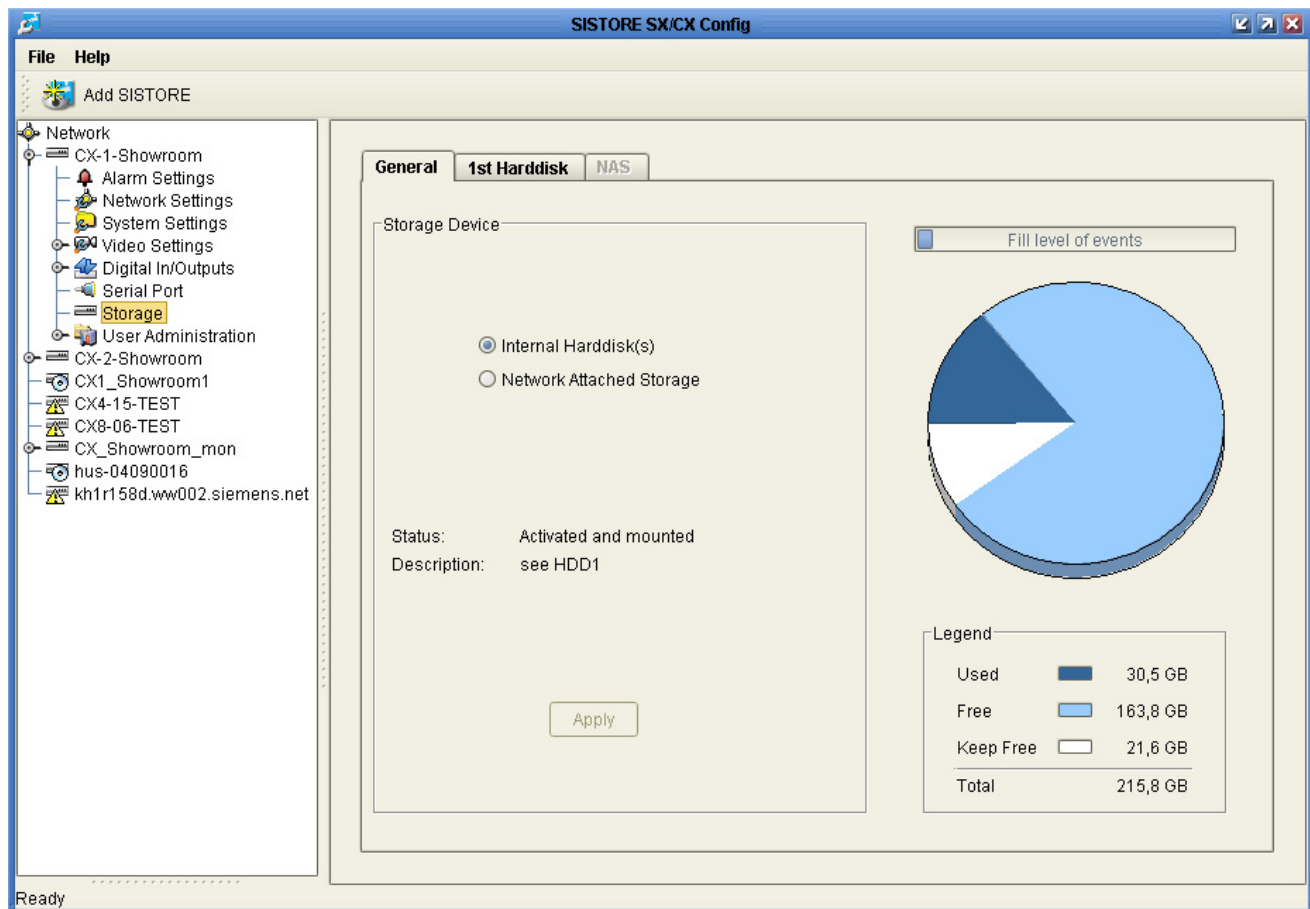

Fig. 52 Video Storage – Storage capacity
4. Select a storage medium by activating the appropriate option (see Fig. 52).